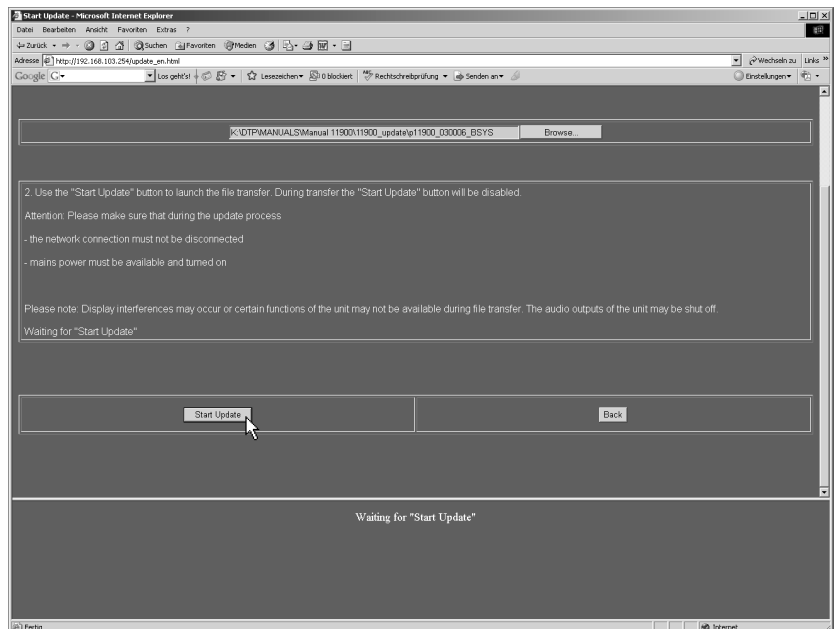

Fig. 8-6: Starting the update process with the selected update file
6. Press Start update to start the update process (see Fig. 8-6). **Please make sure that no interruption of the network access or supply power occurs during the download sequence.**